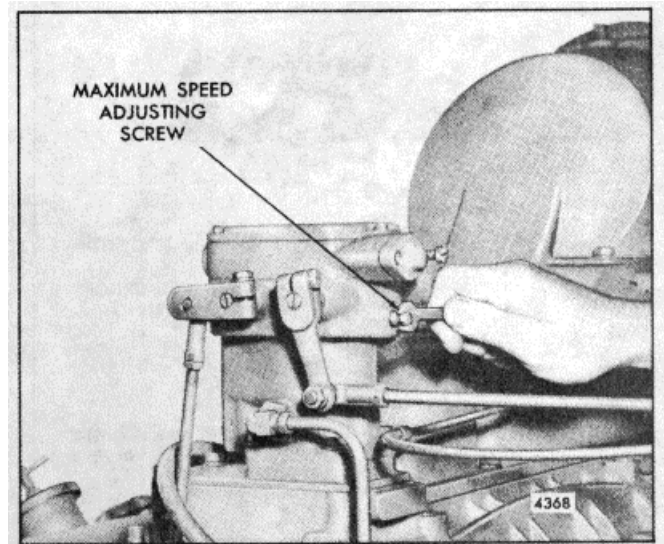

Fig. 9. - Adjusting Maximum No-Load Engine Speed
6. Loosen the locknut on the maximum speed adjusting screw and turn the screw out until 5/8" of the threads are exposed (Fig. 9).
2. Turn the maximum speed adjusting screw (Fig. 9) in until the screw contacts the throttle linkage internally, limiting the maximum speed of the engine at 8% above the rated full-load speed.